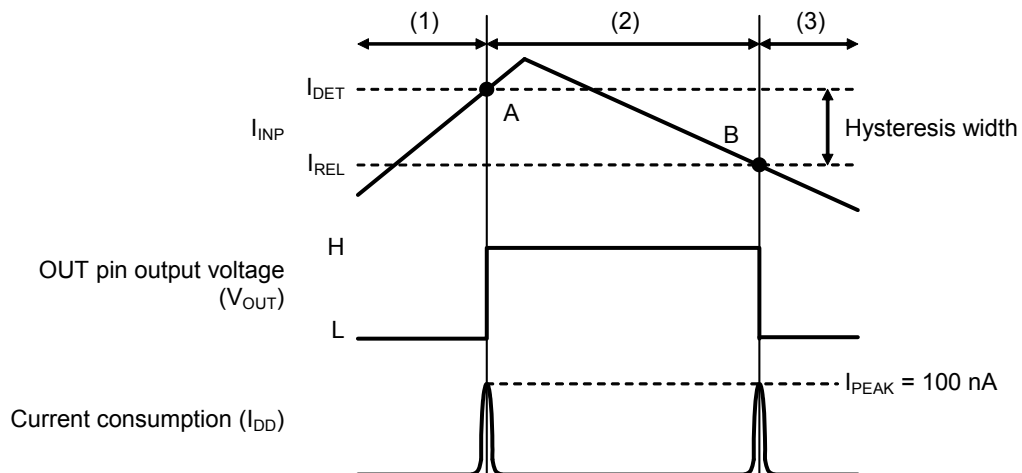

Figure 14 Operation when Detecting Certain Current Level
- (1) If I_{INP} is lower than I_{DET} , an "L" level signal is output from the OUT pin.
- (2) If I_{INP} increases and becomes equal to or higher than I_{DET} , an "H" level signal is output from the OUT pin (point A in **Figure 14**). Even if I_{INP} decreases and falls below I_{DET} , as long as I_{INP} is higher than I_{REL} , an "H" level signal is output from the OUT pin.
- (3) If I_{INP} then decreases further and becomes equal to or lower than I_{REL} , an "L" level signal is output from the OUT pin (point B in **Figure 14**).
- 2.** Feed-through current ($I_{PEAK} = 100$ nA) flows around the time when the OUT pin voltage switches, as shown in Figure 14. Therefore, if the input current is fixed around this time, the current consumption will increase.
The hysteresis width is the current difference between the detection current and the release current (current at point B – current at point A in "Figure 14 Operation when Detecting Certain Current Level" and "Figure 16 Operation when Detecting the Difference of Current Level").